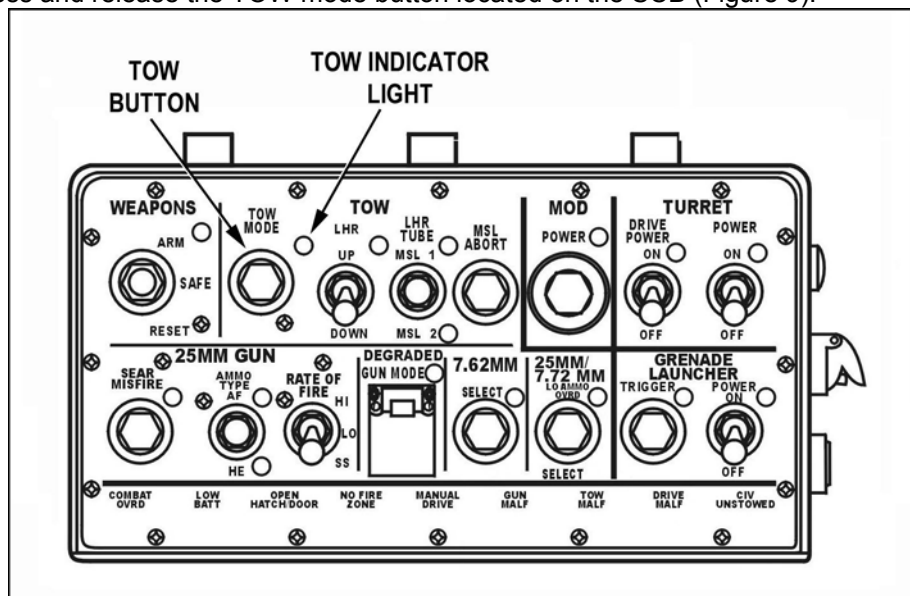

Figure 9. TOW button and indicator light.
- d. Press and release the TOW mode button located on the SCB (Figure 9).